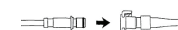

Figure 3: Connect
2. Insert the male coupling of pad into the female coupling of hose. Press until you hear a click (Figure 3).